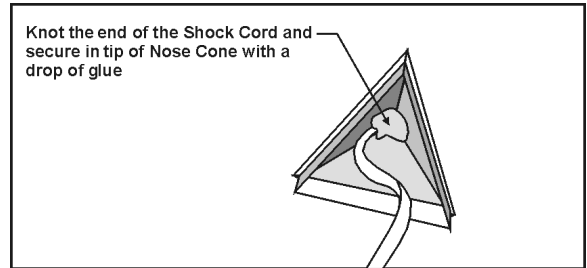

Figure 18
19. Tie a knot in the other end of the Shock Cord and anchor this into the tip of the Nose Cone with a liberal drop of glue as shown in **Figure 18**.